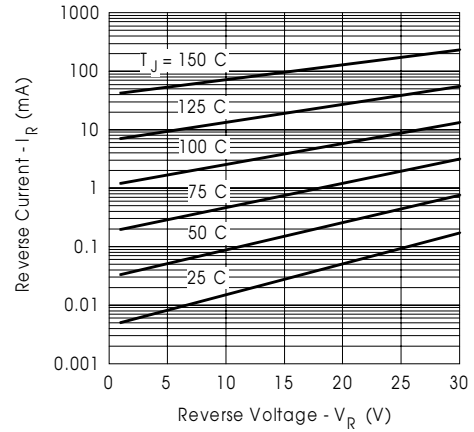

Fig. 2 - Typical Values of Reverse Current Vs. Reverse Voltage
| I_{RM} Max. Reverse Leakage Current (1) * See Fig. 2 | 1.75 | mA | $T_J = 25^\circ\text{C}$ |